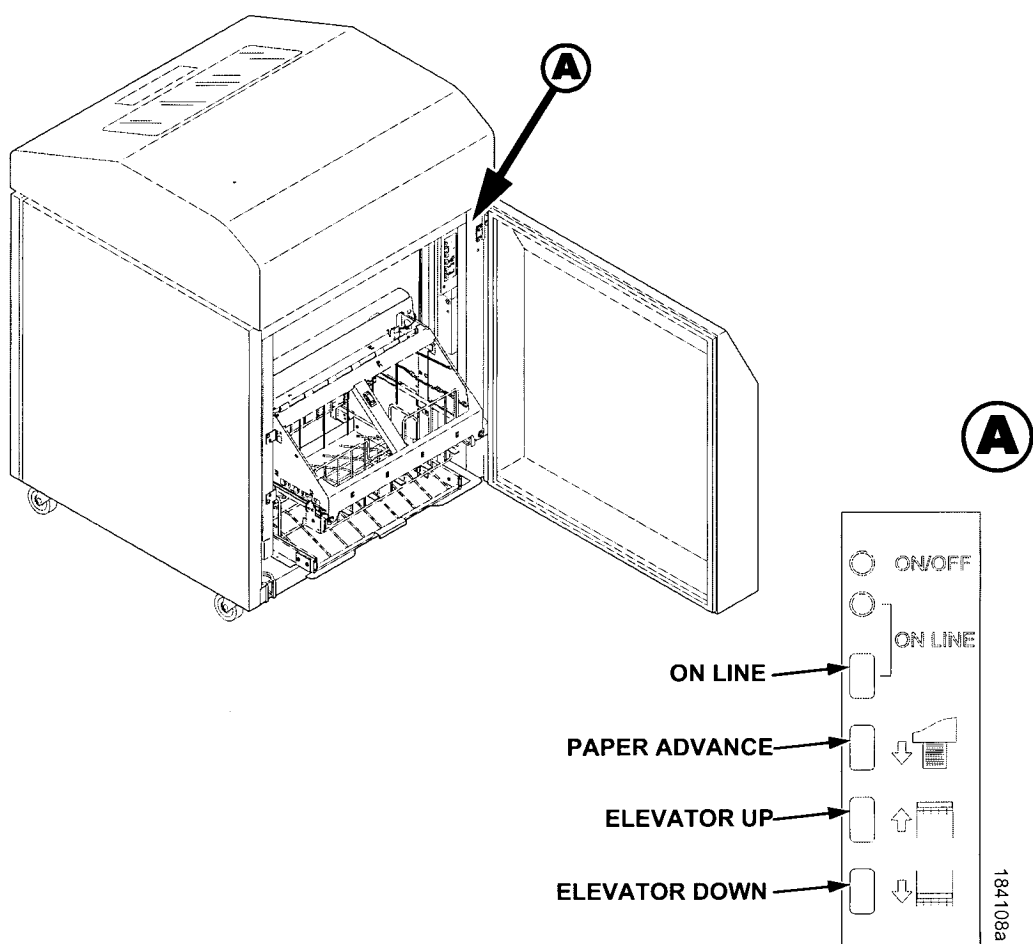

Figure 72. The Rear Control Panel
2. On the rear control panel, press the **ONLINE** key to take the printer offline. (Figure 72.)
3. Press the **ELEVATOR UP** key and wait for the elevator assembly to reach the top of its travel. (Figure 72.)